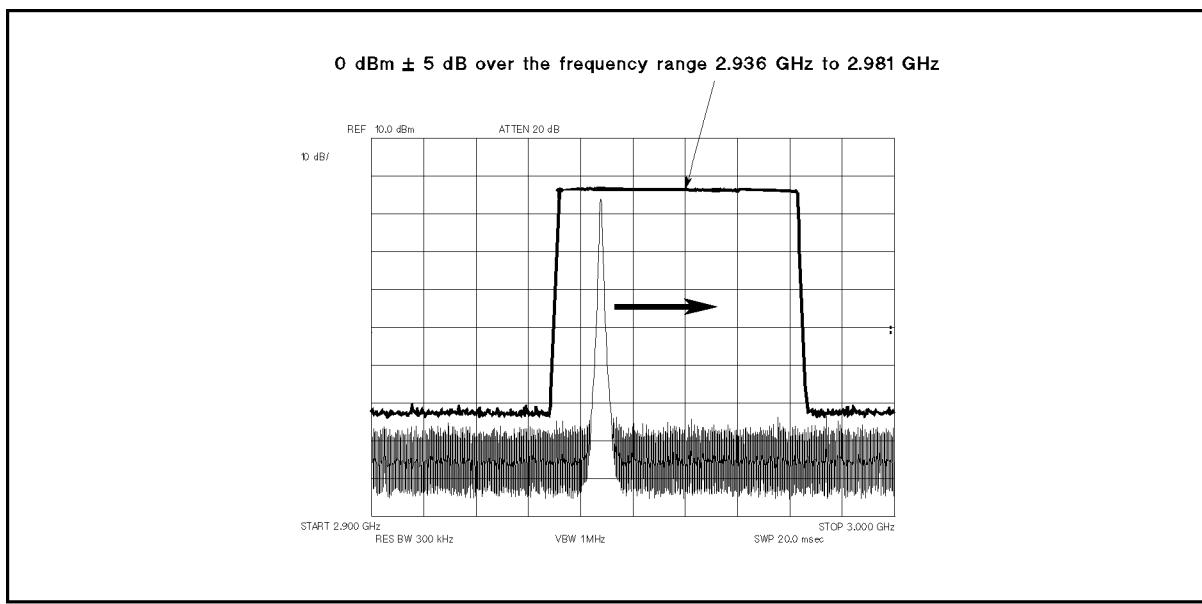

Figure 7-15. Typical 1st LO OSC Signal (Triple Mode) at A4A1J3
- i. Wait for the completion of the sweep, and check that the signal level is -5 dBm to $+5$ dBm over the frequency range of 2.936 GHz to 2.981 GHz. The displayed trace should be as shown in Figure 7-15.